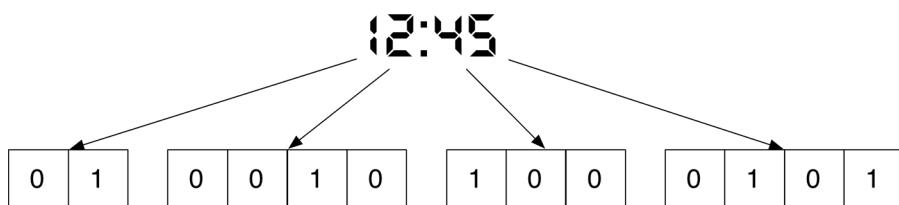

Figure 1: How the time is encoded in BCD format in an STM32 MCU
**Figure 1** shows how the STM32 RTC encodes the current hour in BCD format. Why to use this approach to encode the date/time? This way to keep track of current date/time is typical of small embedded systems and it allows to represent the time in human-readable format without performing